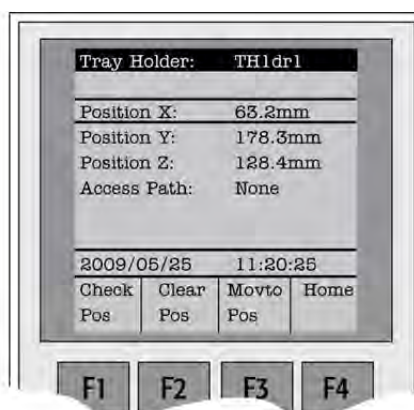

Figure 26. Menu Screen Object Tray Holder
4. After selecting 'Named Tray Holder', the X-, Y-, Z- positions associated with the object will be displayed (see Fig. 26).